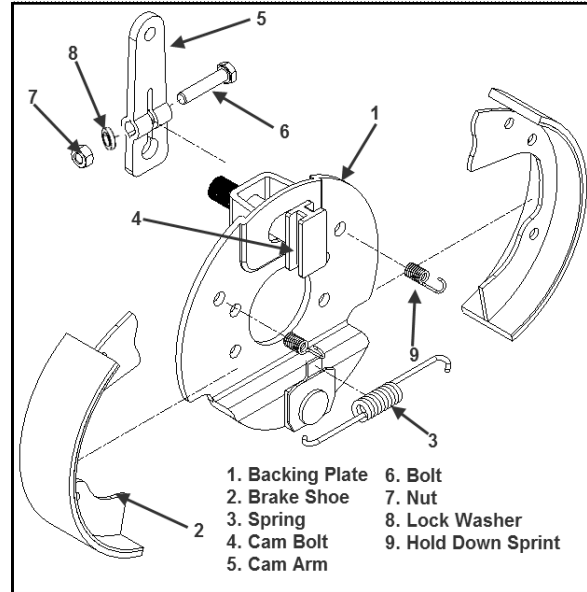

Figure 4-9 Mechanical Brake
The assembly can be disassembled while attached to the rear spindle or removed from the unit. See Figure 4-9.
- c. Remove brake cable end from arm (5) as described in section Section 4.17, step (a).
- d. Remove nuts (12), washers (13), and bolts (14) shown in Figure 4-9
- f. Remove spring (3).
- g. Release brake shoes (2) by removing springs (9) from the backing plate (1).
- h. Remove nut (7), lock washer (8), and bolt (6) to release arm (5).
- i. Remove brake cam (4) by pulling directly outward.